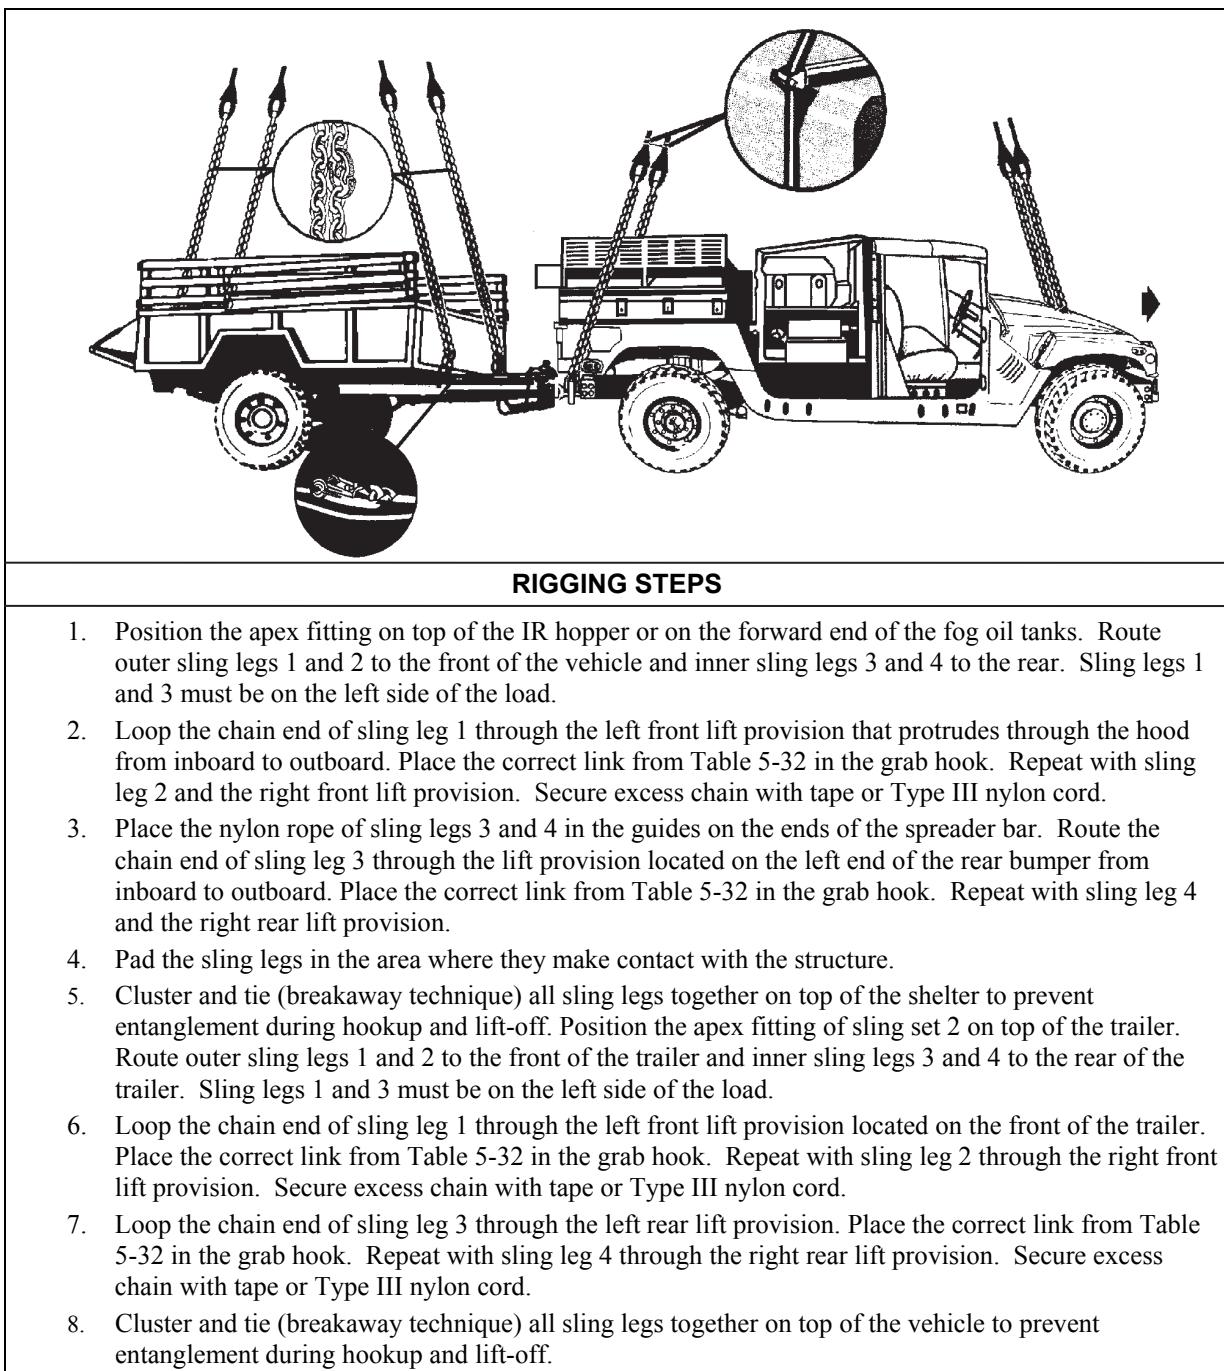

Figure 5-32. M1113 Truck, 1 1/4-Ton with M56 Smoke Generator and M101A2 Trailer
- **Rigging.** Rig the load according to the steps in Figure 5-32.